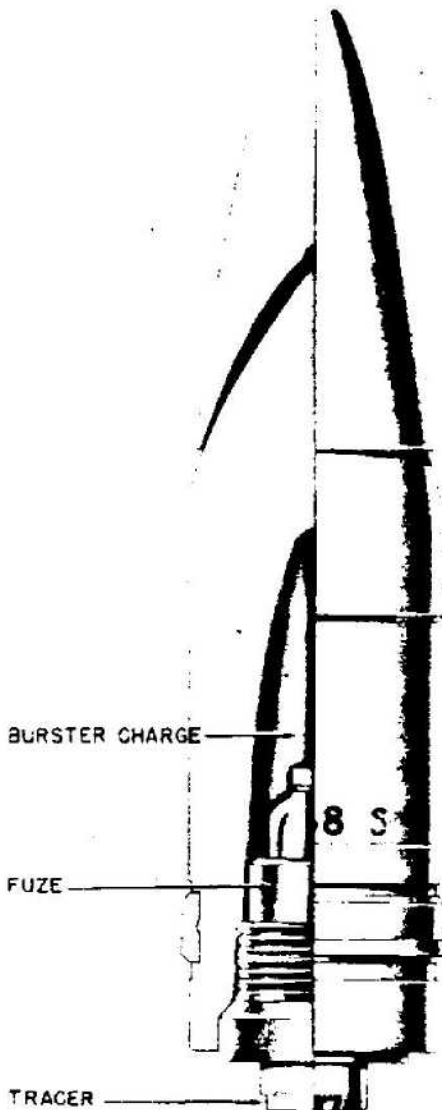

Figure 405—A. P. Projectile for Tank and Field Gun,
**GERMAN NOMENCLATURE:** K. Gr. rot Pz. (See fig. 405.)